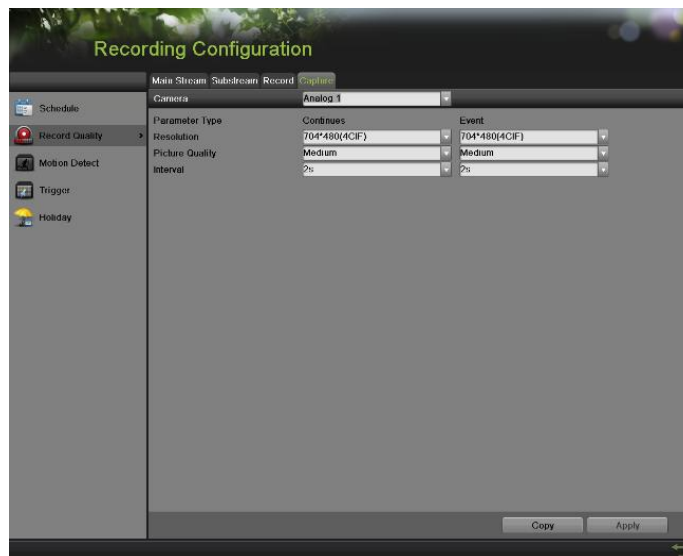

Figure 47 Capture Quality Settings Menu
1. Enter the Capture interface, shown in Figure 47 by going to Menu > Recording Configuration > Recording Quality > Capture.
5. Click the Full-Screen button to enter full-screen playback mode, shown in Figure 47.
2. Enter into Full Screen mode, shown in Figure 47 by clicking the Full Screen button.